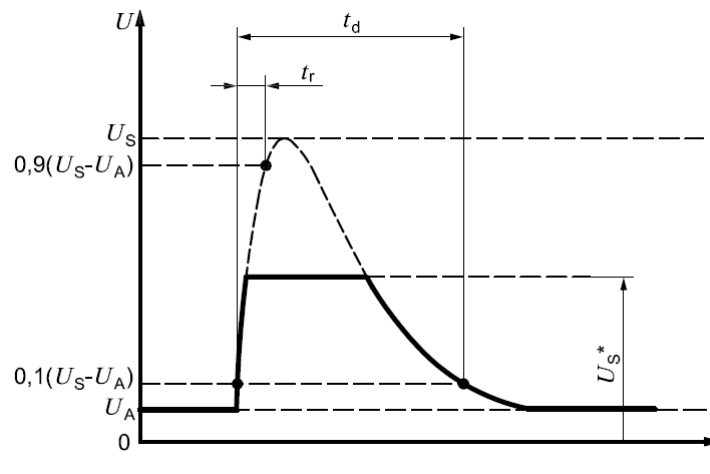

Figure 45. Voltage Profile to Test a Load Dump Event With Centralized Load Dump Suppression
- To emulate a load dump event for an alternator with centralized load dump suppression, voltage profile described in Figure 45 is used. U_A and U_S^* are applied directly to V_{BAT} .